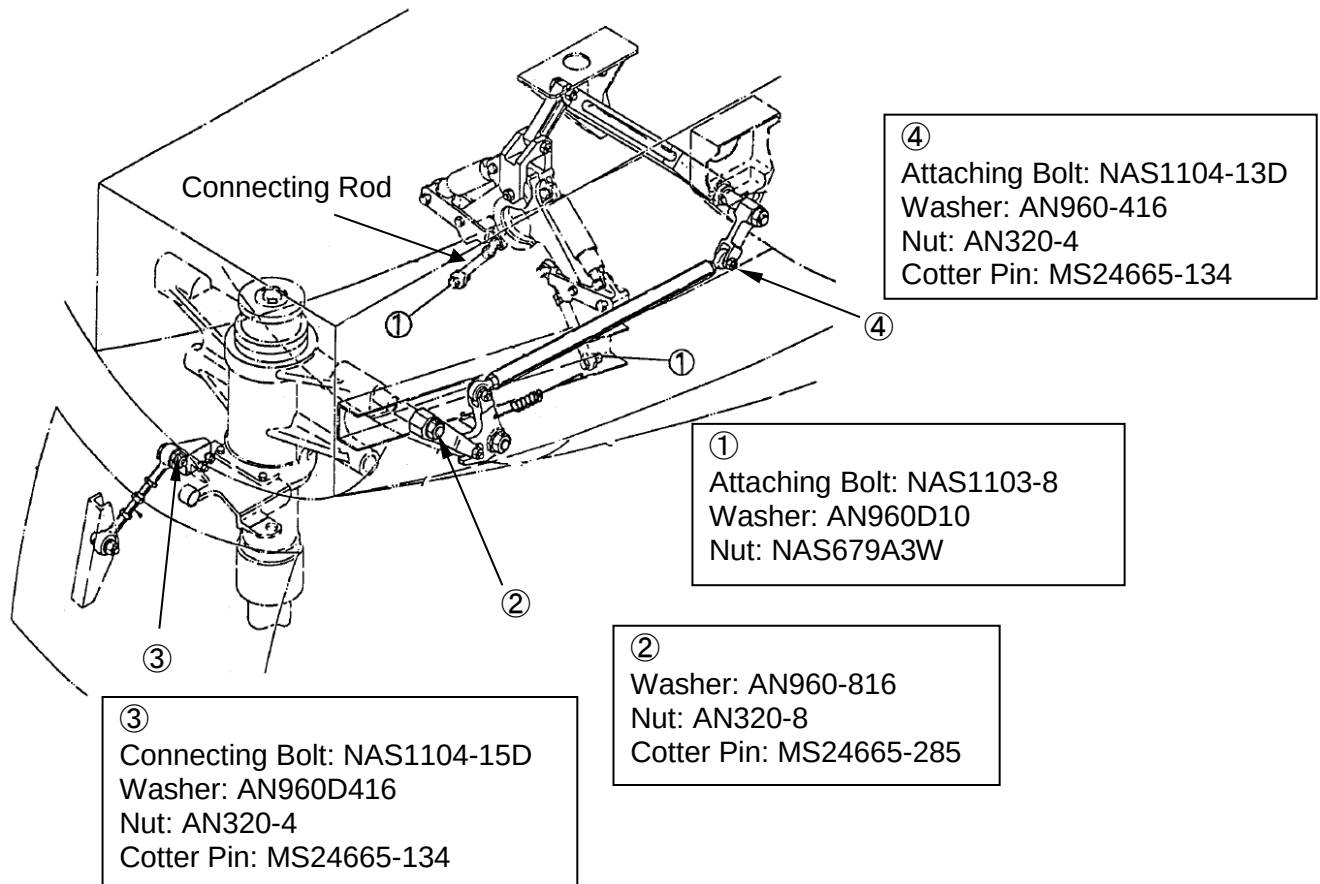

Figure 2: Nose Landing Gear Door Disconnect
- (8) Remove NLG Fwd Door Rod End connecting bolt. (Figure 2 ③)
- (9) Carefully remove NLG Aft Doors connecting Rod bolts and Door Mechanism connecting bolt which are under tension. (Figure 2 ①, ④)
- (11) With the NLG in the down position and locked, check/mark/secure position of:
- (c) Trunnion LH Pin 016A-39271 and Door Actuating Arm mating Splines markings (cotter pin and attaching nut must be removed). (Figure 2 ②)